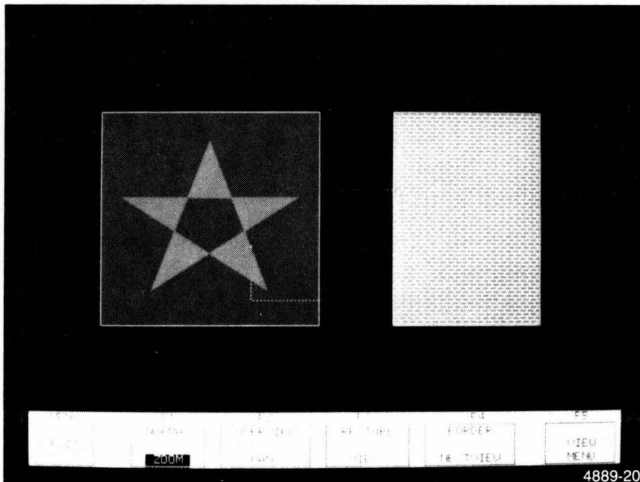

Figure 3-15. Viewing Keys Menu.
2. Press *Menu*, then press F2: ZOOM/PAN. This puts the terminal in *Framing mode* and displays the viewing keys menu, shown in Figure 3-15. This menu shows the functions of F1 through F5 (at the bottom of each box) and their shifted versions (at the top of each box).